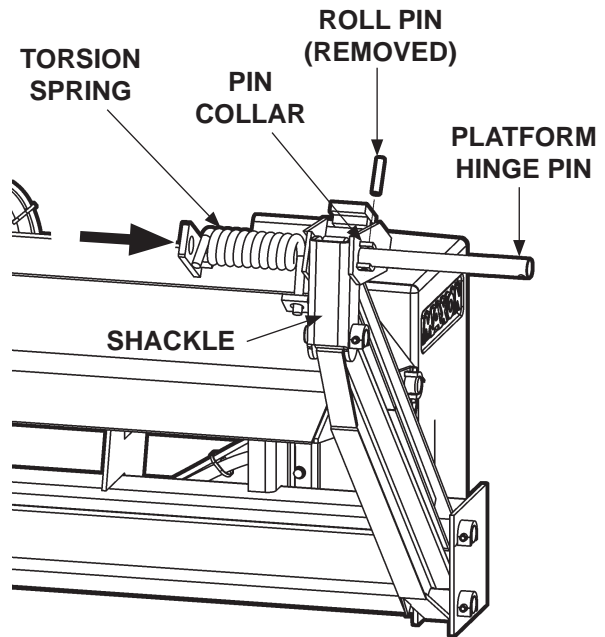

FIG. 18-1
3. Drive out the roll pin from pin collar on the platform hinge bracket. Drive the platform hinge pin outboard from the shackle just enough to free the torsion spring (**FIG. 18-1**). Remove spring from shackle.